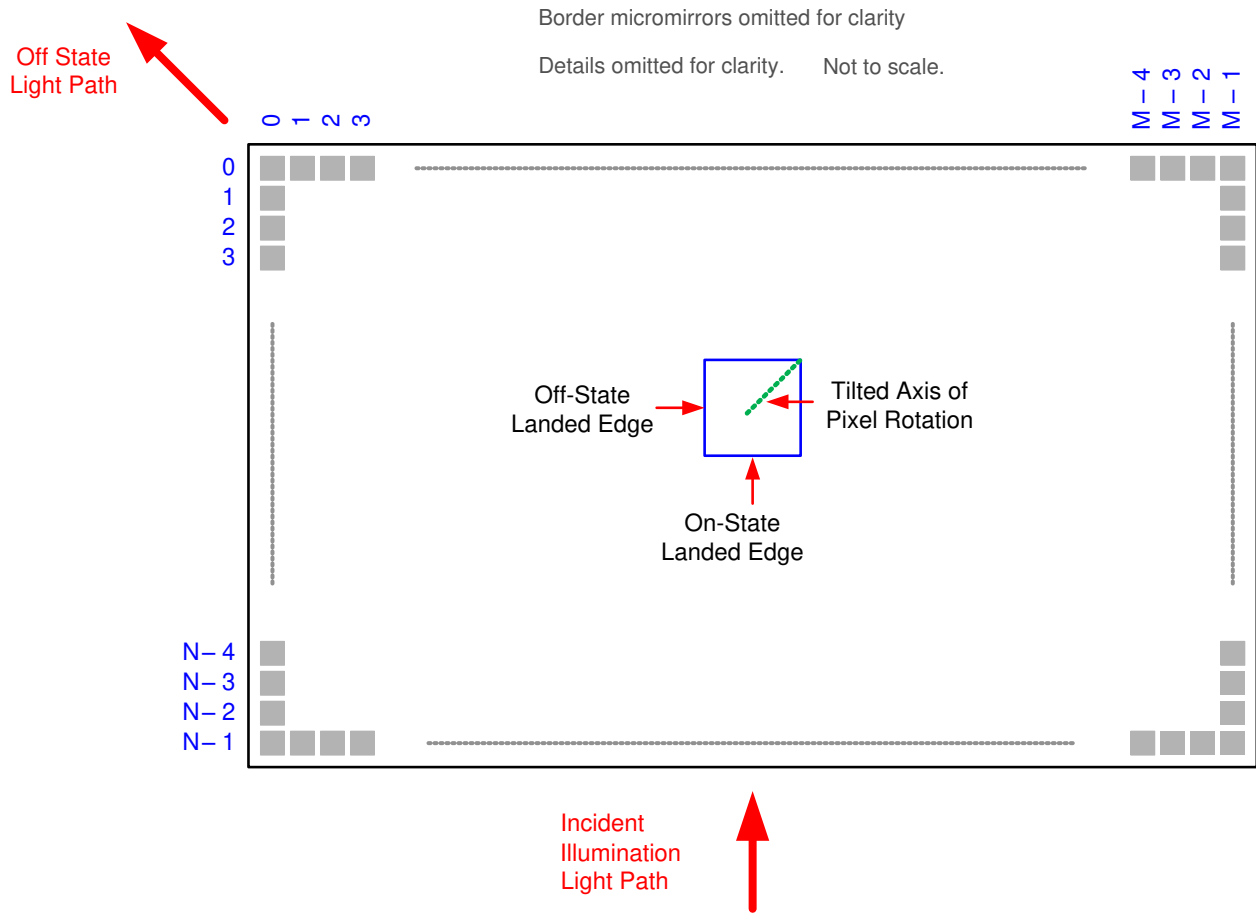

图 6-9. Micromirror Landed Orientation and Tilt
- (1) Limits on variability of micromirror tilt angle are critical in the design of the accompanying optical system. Variations in tilt angle within a device may result in apparent nonuniformities, such as line pairing and image mottling, across the projected image. Variations in the average tilt angle between devices may result in colorimetric and system contrast variations.
- (2) See 图 6-9.
- (3) An out-of-specification micromirror is defined as a micromirror that is unable to transition between the two landed states within the specified Micromirror Switching Time.